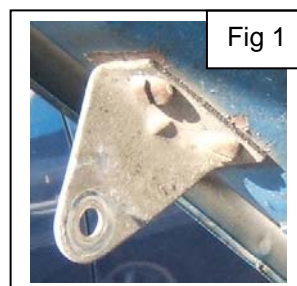

Fig 1
3. The upper bracket (Fig 1) is attached to the hood, usually with two sheetmetal screws.
10. Examine the upper mounting bracket. (7A). Note the orientation in Fig 7 and compare it to Fig 1. We have flipped the bracket around. It needs to look like the bracket in 7A in order for the support to line up properly. We also re-bent the bracket a little to make it more of a 90° angle to get a better alignment.